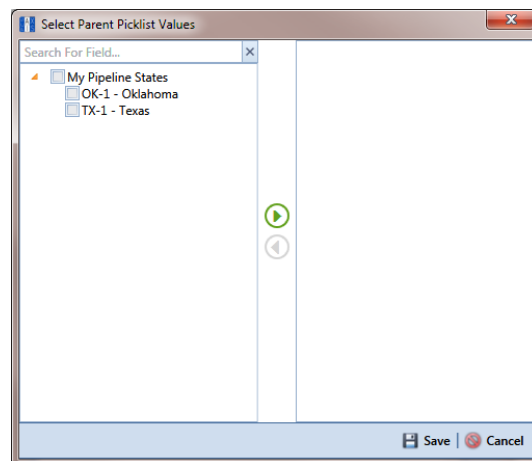

Figure 3-55. Select Parent Picklist Values
- c Click the  parent picklist button to open the dialog box labeled *Select Parent Picklist Values* (Figure 3-55).
- c Click the  parent picklist button to open the dialog box labeled *Select Parent Picklist Values* (Figure 3-55, page 105).
- 1) Click the  parent picklist button to open the dialog box *Select Parent Picklist Values* (Figure 3-55, page 105).